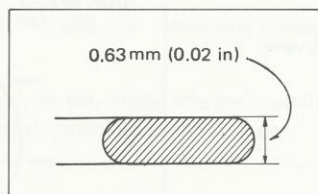

Fig. 7. Flat rings
- The piston of the RM125S engine is fitted with flat steel rings in its 1st and 2nd grooves. See Fig. 7.